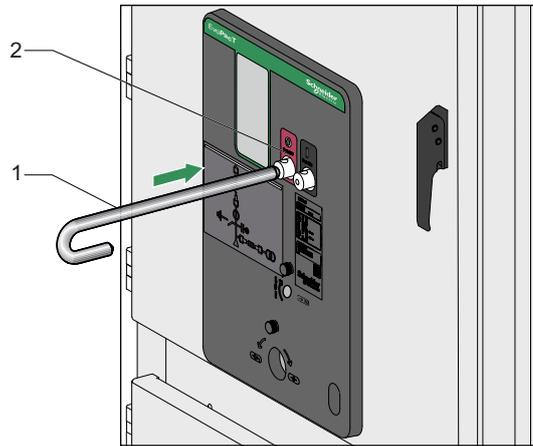

Figure 41
1. Take the push rod (1) from the transport trolley. Refer to Figure 41.
2. Insert the push rod (1) through switch OFF guide (2) of the VCB front door.
3. Push the switch OFF button with the push rod (1).